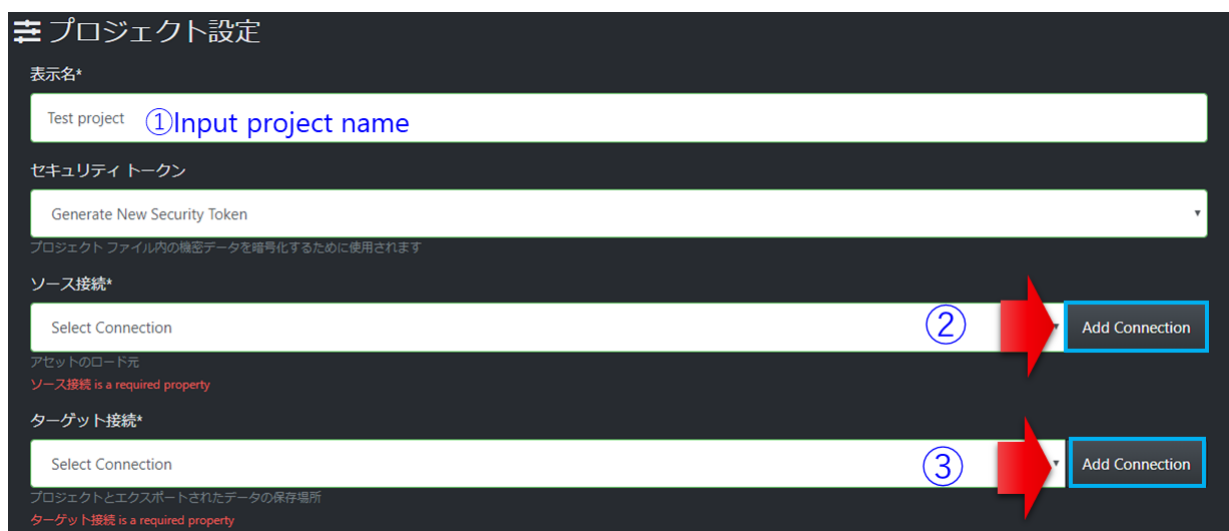

Fig.4.3 Project settings
- (b) The project settings screen shown in Figure 4.3 appears. ① Please enter a project name that does not include Japanese characters in the display name.
- (c) Click Add Connection on the right side of Figure 4.3 ② Source Connection.
- (g) To return to the project setting screen shown in Fig. 4.3, click Add Connection on the right side of ③"Target Connection."